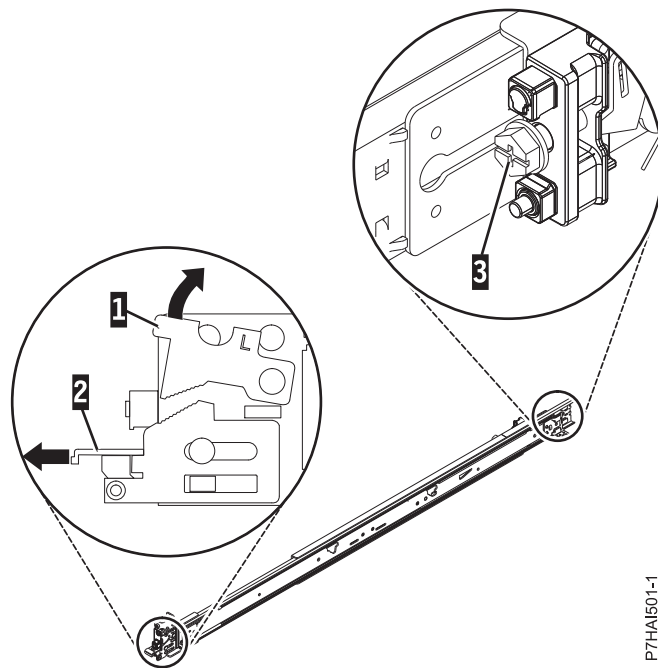

Figure 19. Opening the front latch and removing the rear screw
2. Push up on the locking tab (1) on the front, and pull out the front latch (2) at the front of the rail. Then, remove the screw from the rear of the rail (3). For details, see Figure 19.